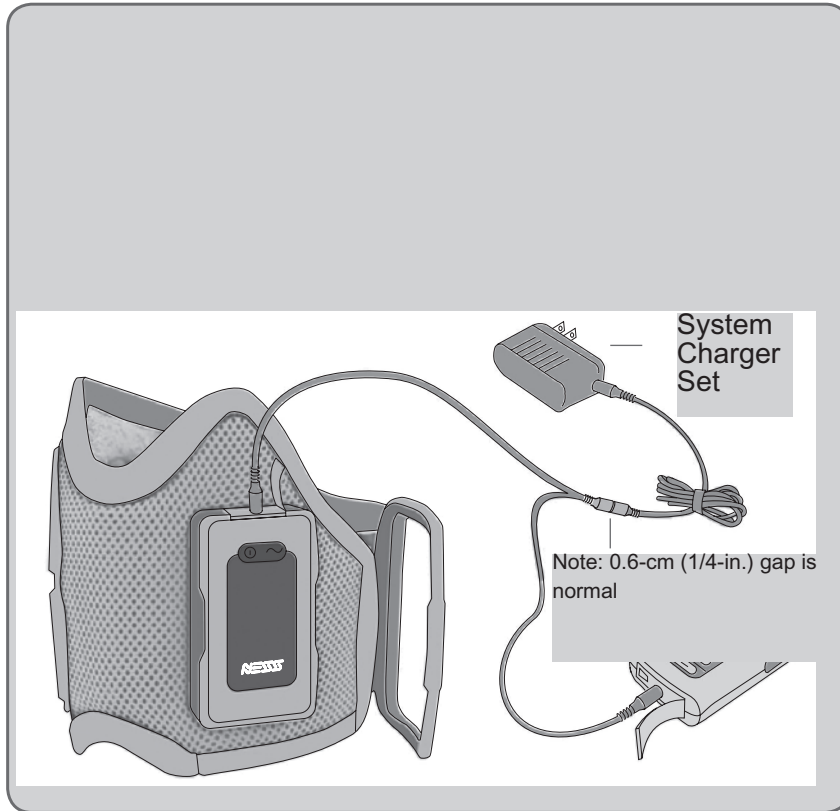

Figure 45: Charging setup.
2. Connect the system charger set to the Control Unit and both RF Stim Units. See Figure 45.